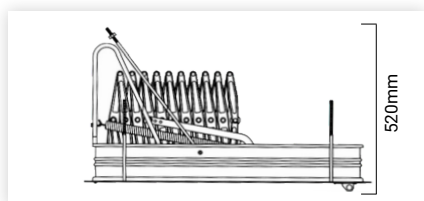

figure 2
- The area for the opening must be clear of wiring, plumbing and structural members such as beams and trusses with a minimum clear height above the ceiling of 520mm for the ELC30 ladder (figure 2).